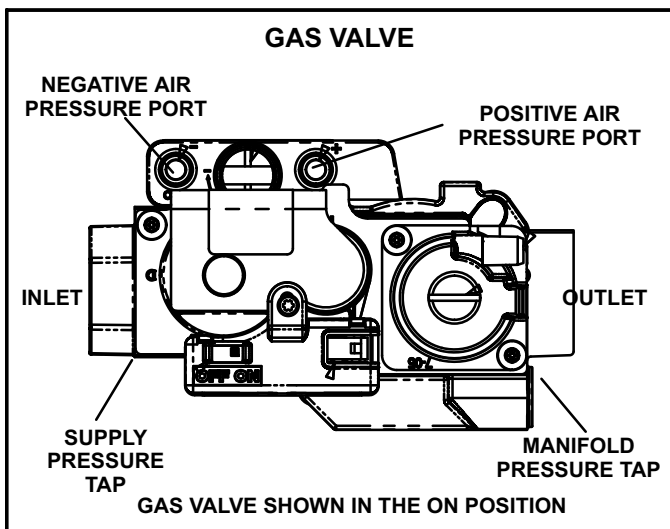

FIGURE 17
The valve (figure 17) is internally redundant to assure safety shut-off. If the gas valve must be replaced, the same type valve must be used.
- 6 - Turn switch on gas valve to **OFF**. Do not force. See figure 17.
- 8 - Move switch on gas valve to **ON**. Do not force. See figure 17.
A port on the inlet side of the gas valve provides access to the supply pressure tap. See figure 17. Loosen the screw and connect a manometer to measure supply pressure. *The minimum supply line pressure is 4.5" - 13.0" w.c. For natural and 11.0 - 13.0" wc for LP/Propane. Tighten after measurements have been taken.*
- 2 - Remove the threaded plug from the outlet side of the gas valve and install a field-provided barbed fitting. Connect measuring device positive "+" to barbed fitting to measure manifold pressure. See figure 17 for manifold location.